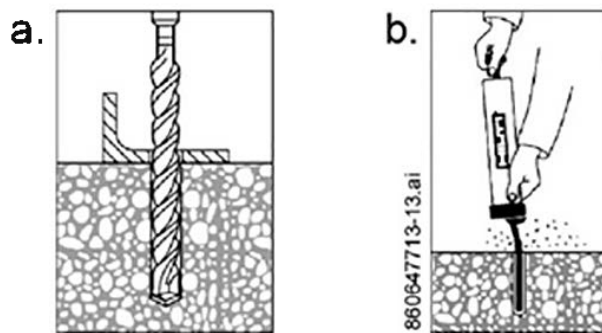
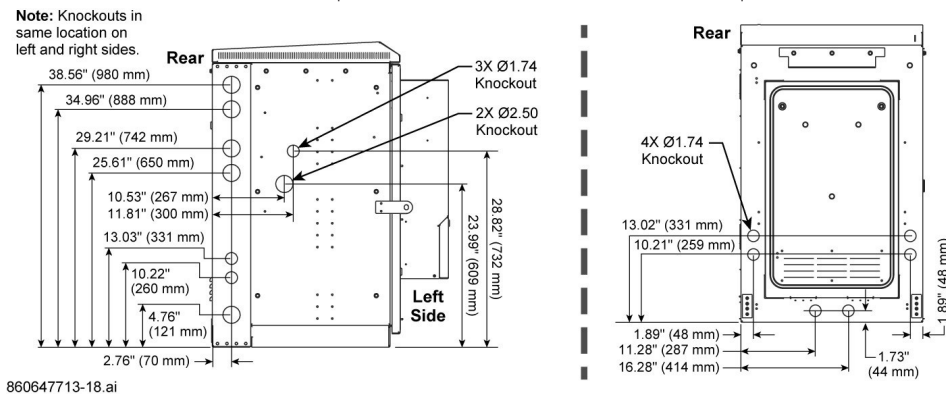

Figure 19. Drill Anchor Holes and Remove Debris
Figure 24. Cabinet Knockout Locations, CommScope Telco All-In-One Cabinet
- **Vault**—Fasten cabinet to steel structure with customer provided 1/2" x 2.5" bolts, nuts, flat and lock washers, Figure 24.
- If routing cable through pad (structure), remove floor knockouts (punch outside to inside) before placing cabinet onto pad; Figure 18, Figure 19, Figure 24.
- Bring in cable through knockouts on left and right walls and cabinet base, Figure 24.